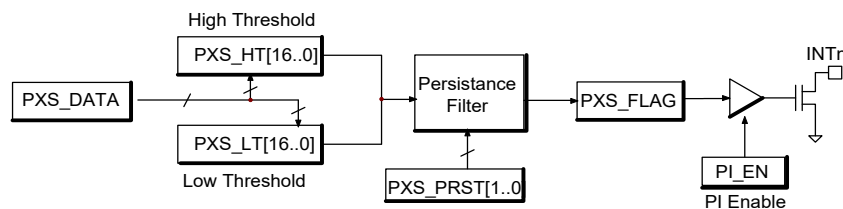

Figure 4. Interrupt Scheme
If PI_EN is set the INTn pin will also assert. If not, INTn will be in high impedance (HZ) state, independent of the status of the PXS_FLAG signal. Figure 4 shows the logic connections for the different blocks used to generate an interrupt.